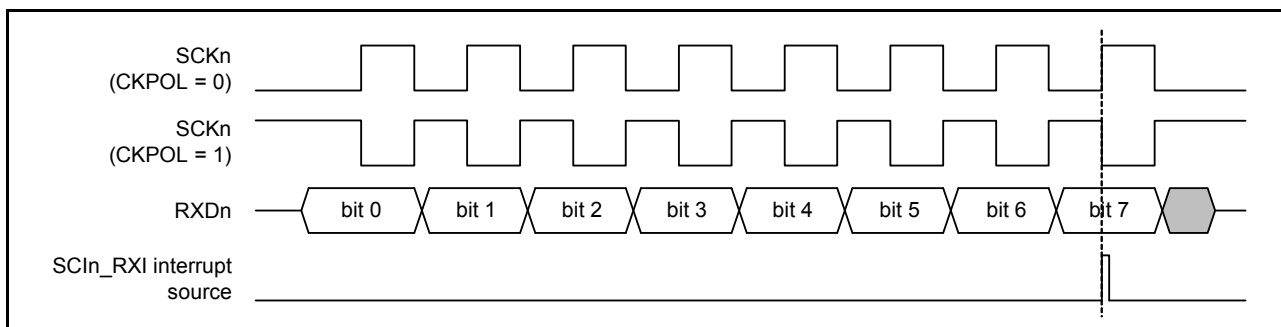

Figure 25.79 Timing of SCIn_RXI interrupt in simple SPI mode with clock delay
- For the clock delay setting (SPMR.CKPH bit is 1), the receive data full interrupt (SCIn_RXI) is generated before the final clock edge on the SCKn pin as indicated in Figure 25.79. If the TE and RE bits in the SCR become 0 at this time before the final edge of the clock signal on the SCKn pin, the SCKn pin is placed in the high-impedance state, so the width of the last clock pulse of the transfer clock is shortened. Additionally, an SCIn_RXI interrupt might lead to the input signal on the SSn pin of a connected slave going to the high level before the final edge of the clock signal on the SCKn pin, leading to incorrect operation of the slave.